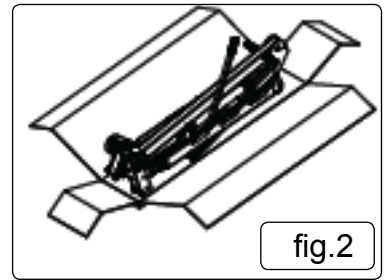
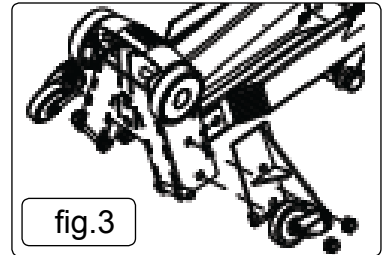

fig.2
fig.3
- 4.2. Open the box and assemble the wheel brackets on the column (fig.2 / fig.3)